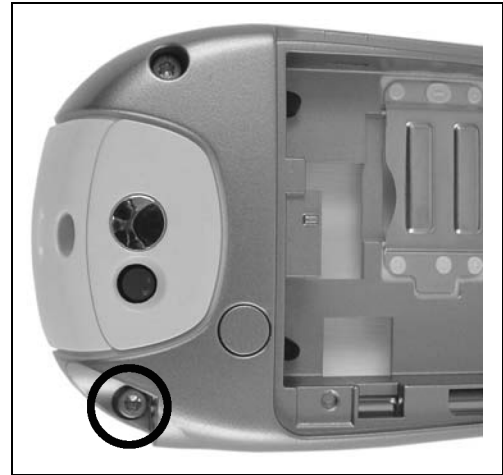

Figure 7-7.
1. Remove five T6 screws, including one behind antenna collar. See Figure 7-7.